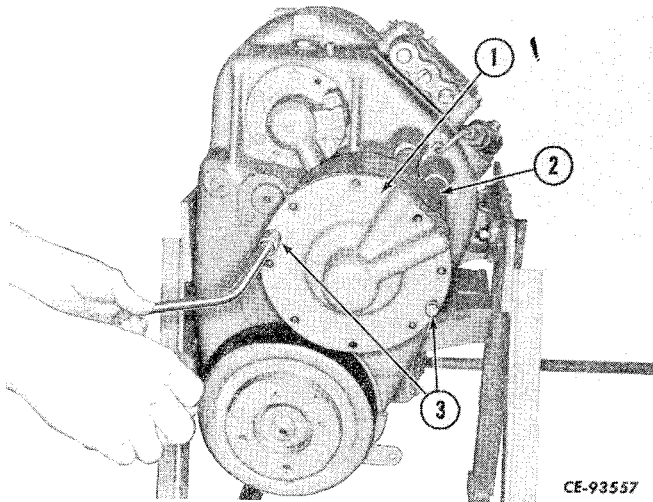

Figure 4-16
Remove the cap screws and lock washers that secure the cover (1, Fig. 4-16) to the first speed pack housing (2). Install two jack screws (3) in the tapped holes in the cover and remove the cover. Remove the "O" rings sealing main pressure and lube pressure between the cover and housing.